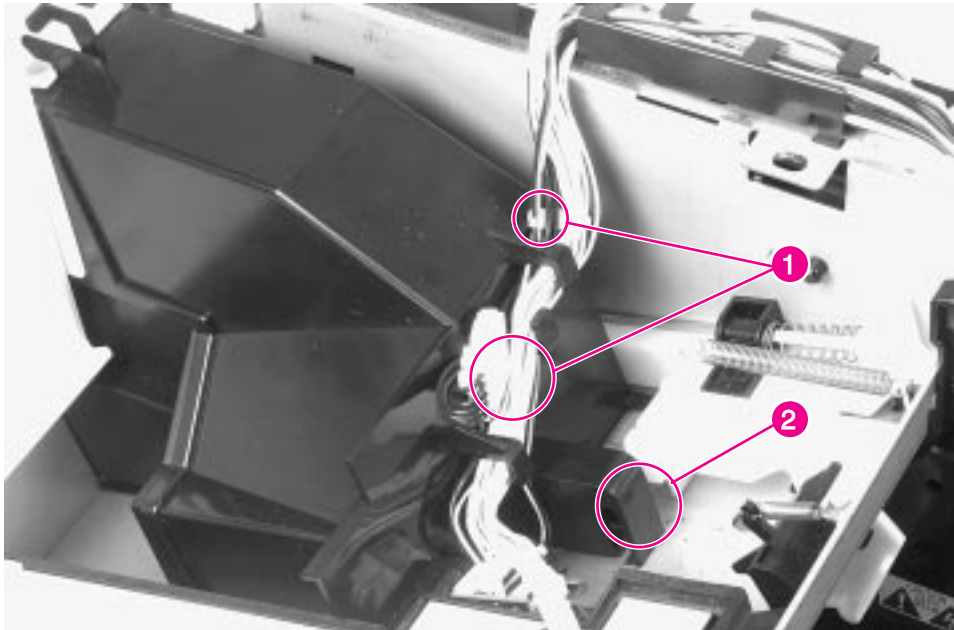

Figure 6-18 Fan 1, Laser/Scanner (1 of 2)
- 3 Remove and re-route the cables away from fan housing (figure 6-18, callout 1).
- 4 Release the housing retainer clip located inside the toner cartridge cavity (figure 6-18, callout 2), and lift the housing up and out of the chassis.